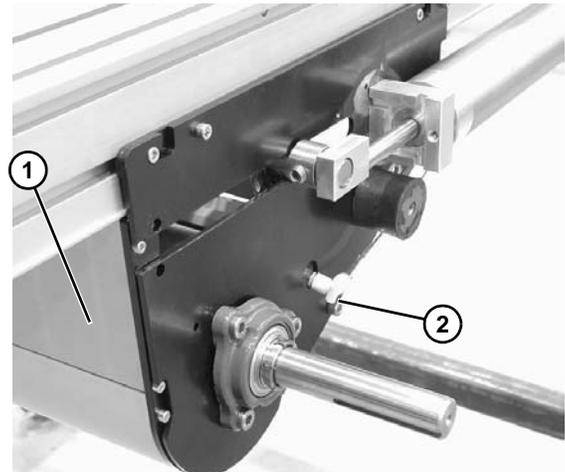

Figure 63
3. Temporarily support the tensioning roller guard (**Figure 63, item 1**). Remove screws (**Figure 63, item 2**) on both sides of center drive and remove tensioning roller guard (**Figure 63, item 1**) and (**Figure 64, item 2**).